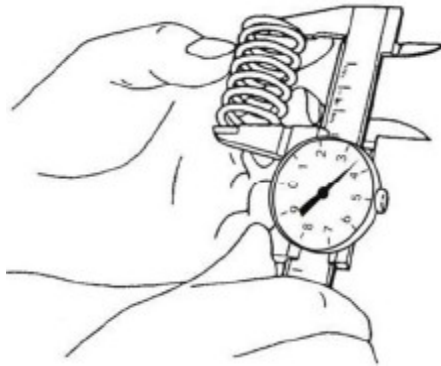

Figure 64. Valve Spring Measurement
5. Use a caliper to measure the length of the spring (Figure 64). See *Valve Spring Mechanical chart* for the service limit.